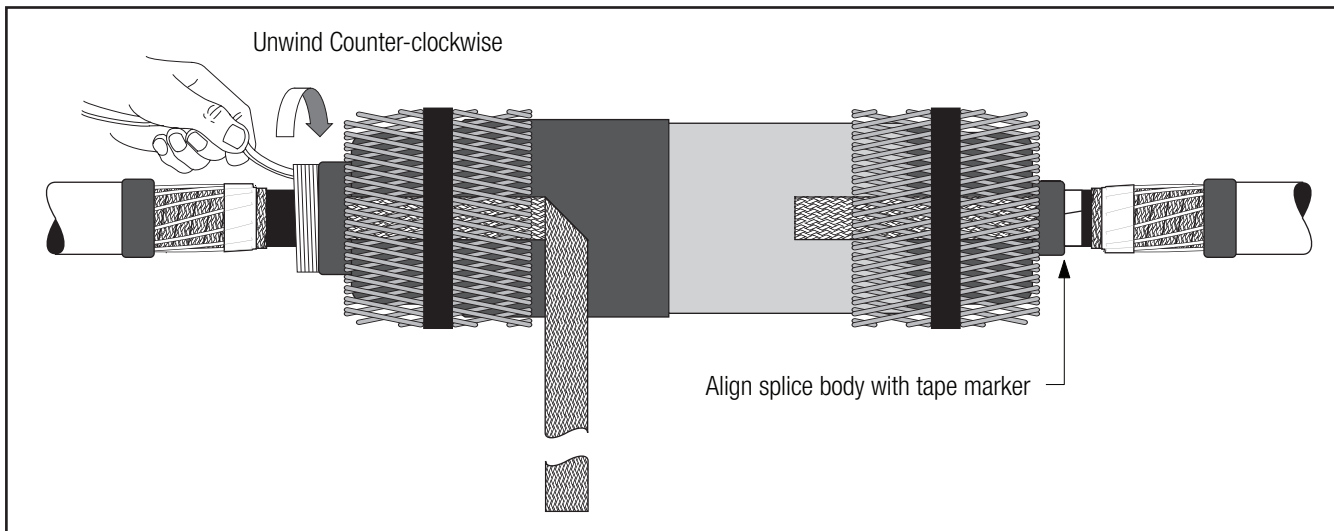

Figure 16
- 4.5 Position the splice body over connector area, aligning end of the splice body (not the core) at the center of the tape marker. **Slowly** start to remove the splice core by pulling and unwinding the loose core end counterclockwise, allowing only 1/4" (6 mm) of the splice to shrink onto the tape marker. Carefully slide the splice body off the tape marker by pulling and twisting until the entire tape marker is exposed. Continue removing the core to complete the splice body installation (Figure 16).